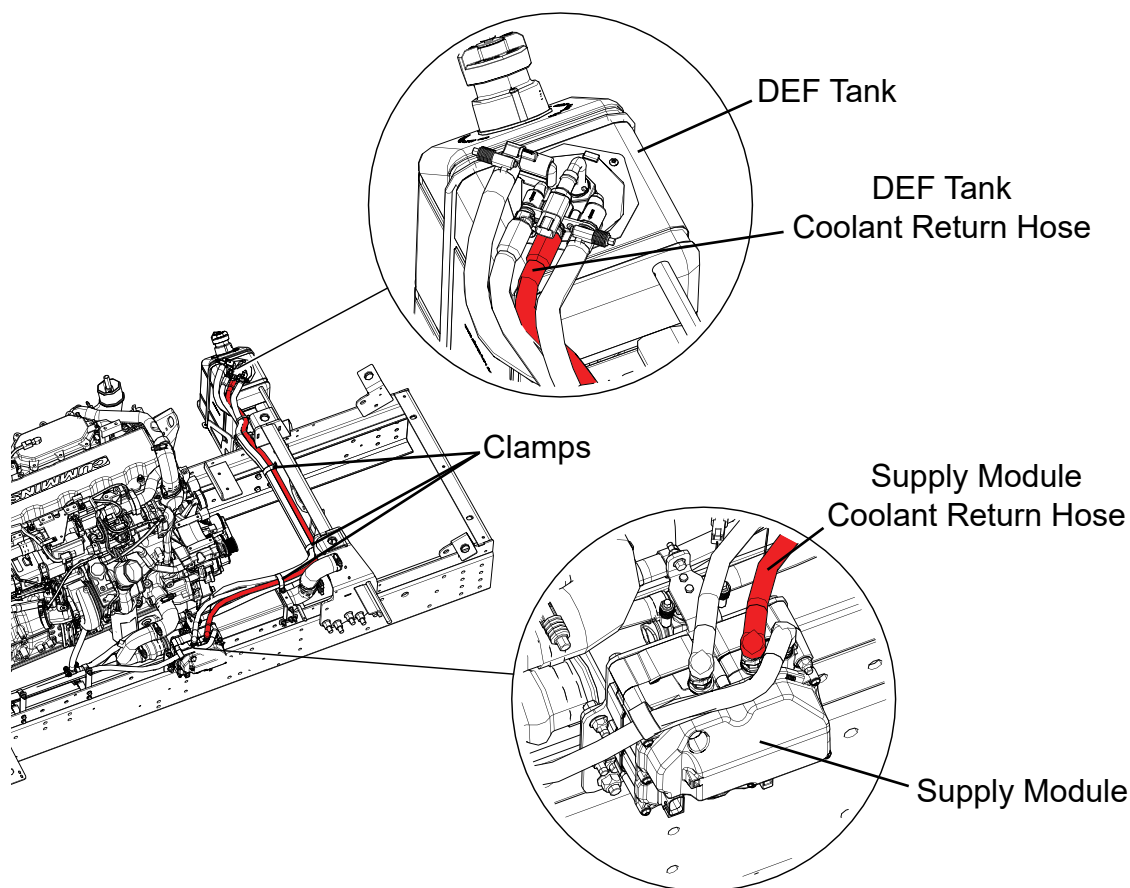

Figure 2
10. Loosen clamps securing DEF and coolant hoses between DEF tank and supply module, see Figure 2.
11. Disconnect original coolant return hose from supply module, see Figure 2.
13. Route new coolant return hose (5091112 or 5092238) from DEF tank to supply module, see Figure 2.
14. Connect new coolant return hose (5091112 or 5092238) to supply module, see Figure 2.